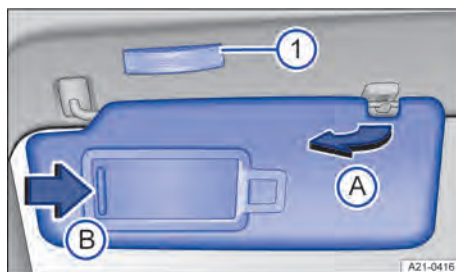

Fig. 87 In the roof at the front: Sun visor
2. Pull out of the bracket and swing over towards the door → Fig. 87 A.
1. Slide the cover open in the direction of the arrow → Fig. 87 B.
The light → Fig. 87 ① will go out when the vanity mirror cover is pushed back or the sun visor is folded back up.